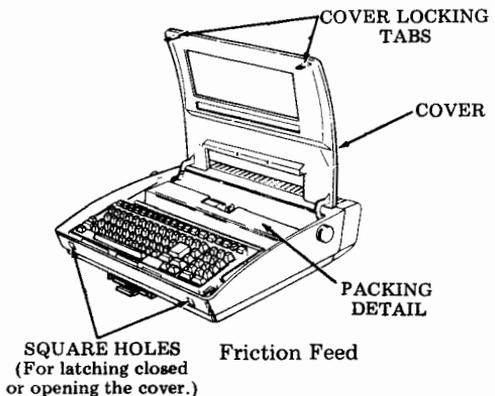

Fig. 2—Packing Detail
3.04 Unpack the carton referring to instructions on the container. Remove tape securing the cover and paper separator to the housing (Fig. 2). If tractor feed, remove tape from tractor mechanism and roller bail.
3.05 Depress the cover locking tabs on the lower front of the cabinet and lift the cover. Remove the packing detail securing the print head and the ribbon in place (Fig. 2).